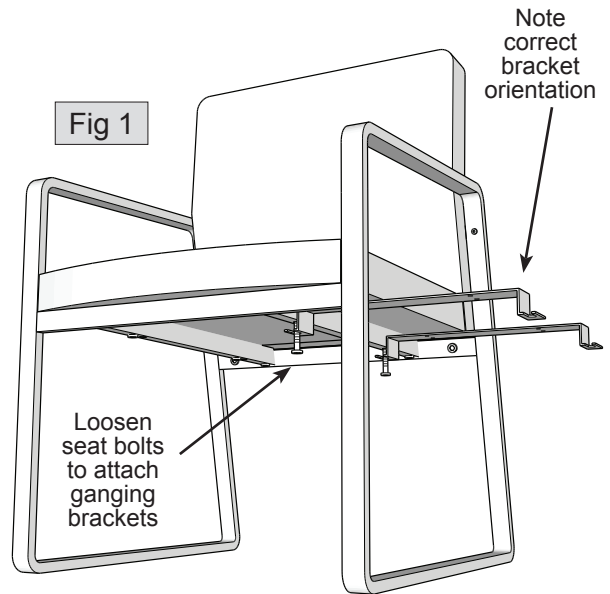

Fig 1
4. Use an Allen wrench to loosen the seat cushion bolts on facing sides of both chairs, as shown in figure 1.